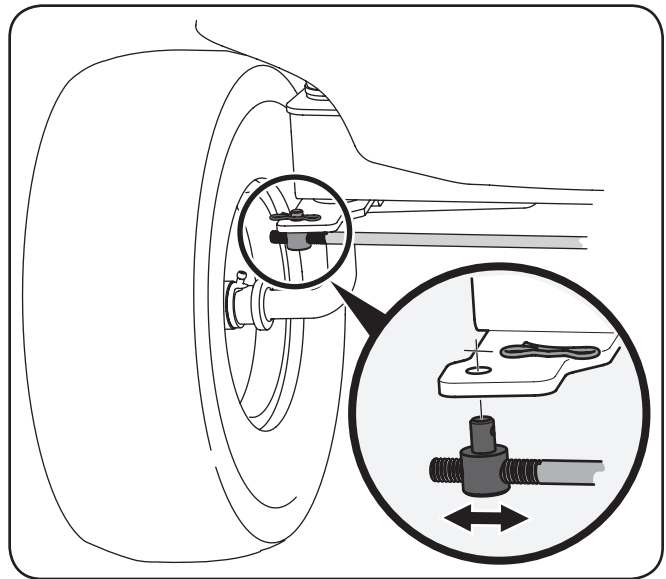

Figure 6-3
1. Remove the bow-tie clip securing the tie-rod ferrule to the right front axle assembly, and drop the tie-rod down to adjust. See Fig. 6-3.